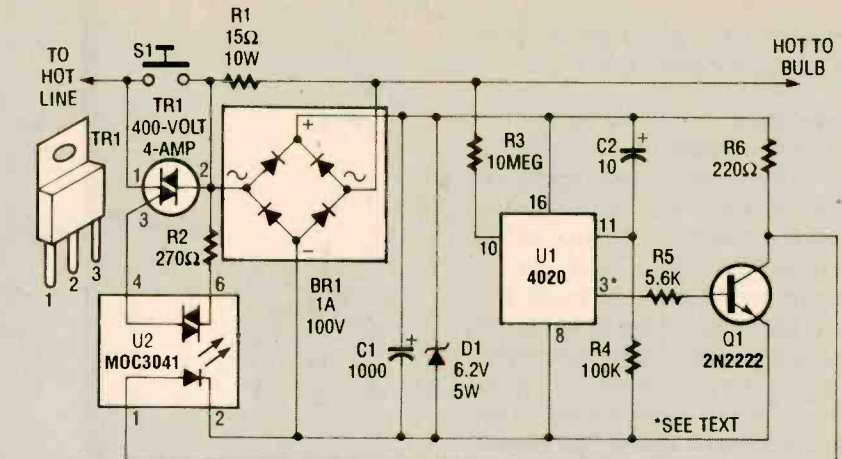

Fig. 1. The Automatic Porch-Light Control Circuit holds a Triac on until a 4020 divider counts a number of 60-Hz powerline pulses.
The other option is to use a separate power supply to operate the circuit. As shown in Fig. 1, all that is needed for that is a center-tapped transformer and a simple full-wave rectifier comprised of two diodes (D5 and D6). The resulting 17-volts DC is then filtered by C3 (near Q5, at the top-right corner of the main circuit).
**The Control Circuit.** The Automatic Porch-Light Control circuit is shown in Fig. 1. The hot lead in the switch box is connected to one side of the pushbutton switch, S1. The switch runs to R1, the 15-ohm, 10-watt resistor that is connected to the bulb via the house wiring. When the pushbutton is pressed it completes the circuit lighting the bulb. The small voltage drop across R1 is full-wave rectified by the bridge, BR1, and the pulsating DC out of the bridge is smoothed by C1 and limited to 6.2 volts by the Zener diode, D1. That voltage acts as the supply for U1, a CMOS 4020 counter/divider.